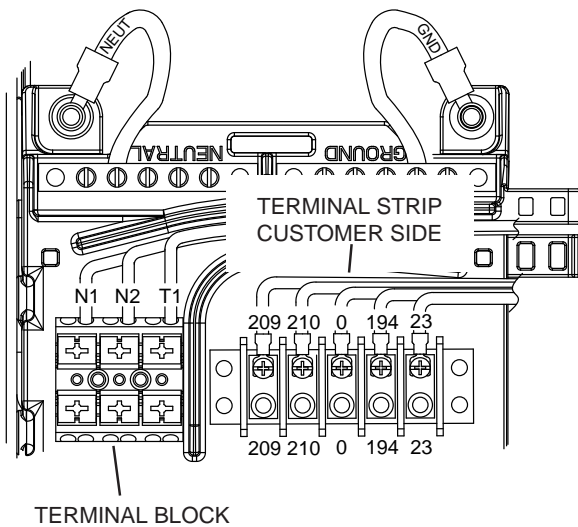

Figure 79. Transfer Relay Test Points
13. Locate the terminal strip in the generator control panel. Disconnect Wire 23 coming in from the transfer switch (customer side, see Figure 79).
18. Connect one meter test lead to Wire 23 connected at the terminal strip (see Figure 79) and connect the other meter test lead to a clean frame ground.